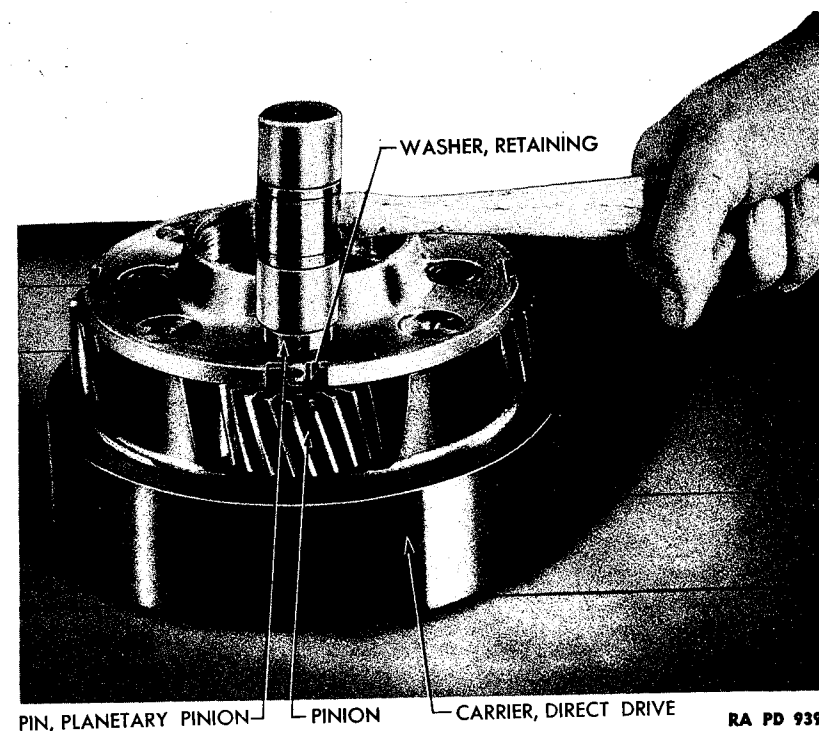

Figure 142 — Installing Pinion Pin in Direct Drive Carrier
(5) INSTALL PLANETARY PINIONS IN DIRECT DRIVE CARRIER.
Install planetary pinions in direct drive carrier in same manner as for output shaft, as explained above in step (1). Drive pinion pins in from pinion end (toward internal gear) (fig. 142).
(6) INSTALL OUTPUT SHAFT.